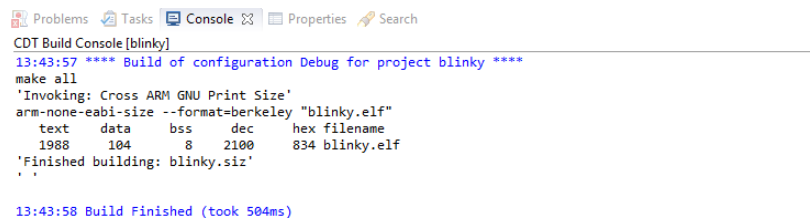

Figure 9. Example of Build Output
2. When the build is running, the output of the build is shown in the ON Semiconductor IDE C/C++ Development Tooling (CDT) Build Console, as illustrated in Figure 9.